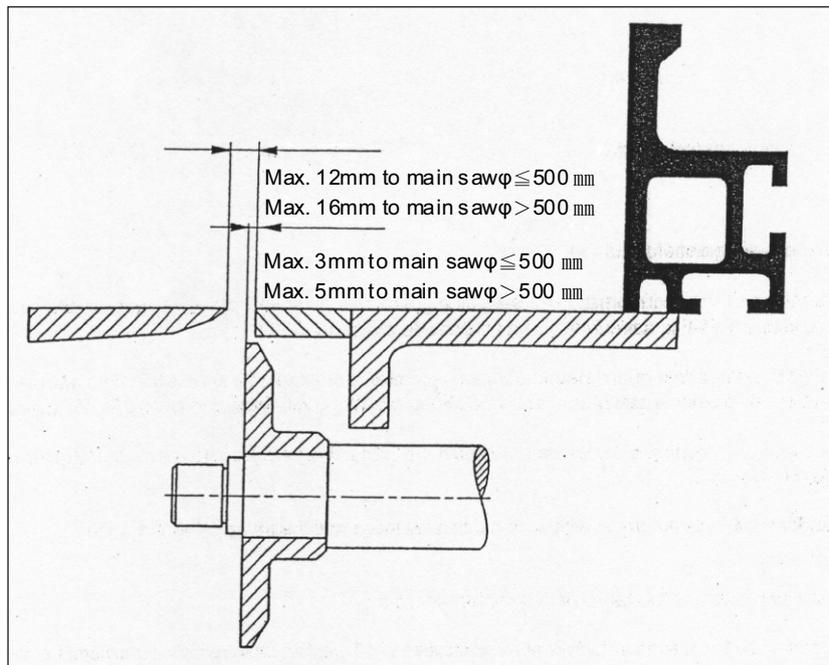

Fig. 2-2-1-5
5. Install the grip and the sliding table's handle into the sliding table as shown in Fig.2-2-1-4.
1. Loosen three screws (as shown in Fig. 2-2-1-2) and use the parallel adjusting bolts at the two sides of the machine to do adjustment (as shown in Fig. 2-2-1-3).
2. For the gap between the sliding table and the main saw, please refer to Fig. 2-2-1-5.